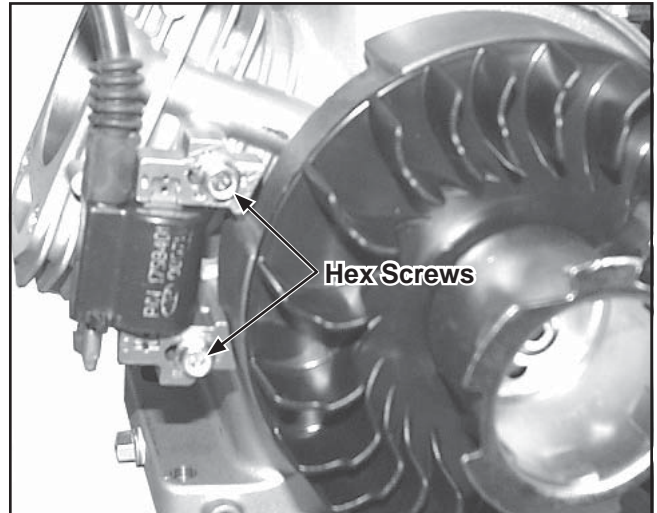

Figure 9-36. Remove Ignition Module Screws.
1. Remove the two hex flange screws securing the ignition module to the crankcase. Remove the module. See Figure 9-36.